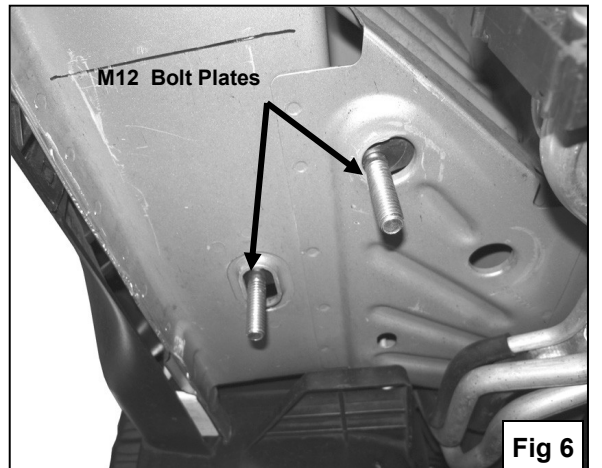

Fig 6
8. Locate the slotted and the rounded hole towards the rear of the floor panel rail. NOTE: There are three round holes towards the rear of the floor panel rail, two large and a small one. Use the larger hole towards the front of the vehicle. Insert (1) M12 Bolt Plate into each of the factory holes (Figure 6). NOTE: Do not center the Bolt Plate in the factory hole, the shorter end of Bolt Plate should be pushed to one side of the factory hole in order to fully engage.